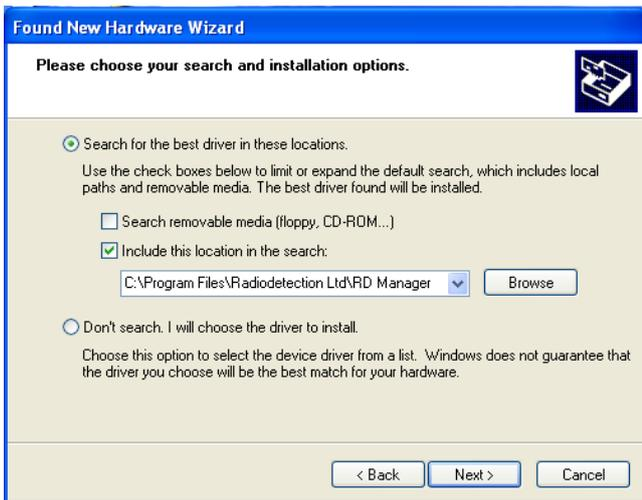

Figure 1.8 Found New Hardware Wizard
- Select “**Include this location in the search:**” while making sure the other option is deselected, figure 1.8.